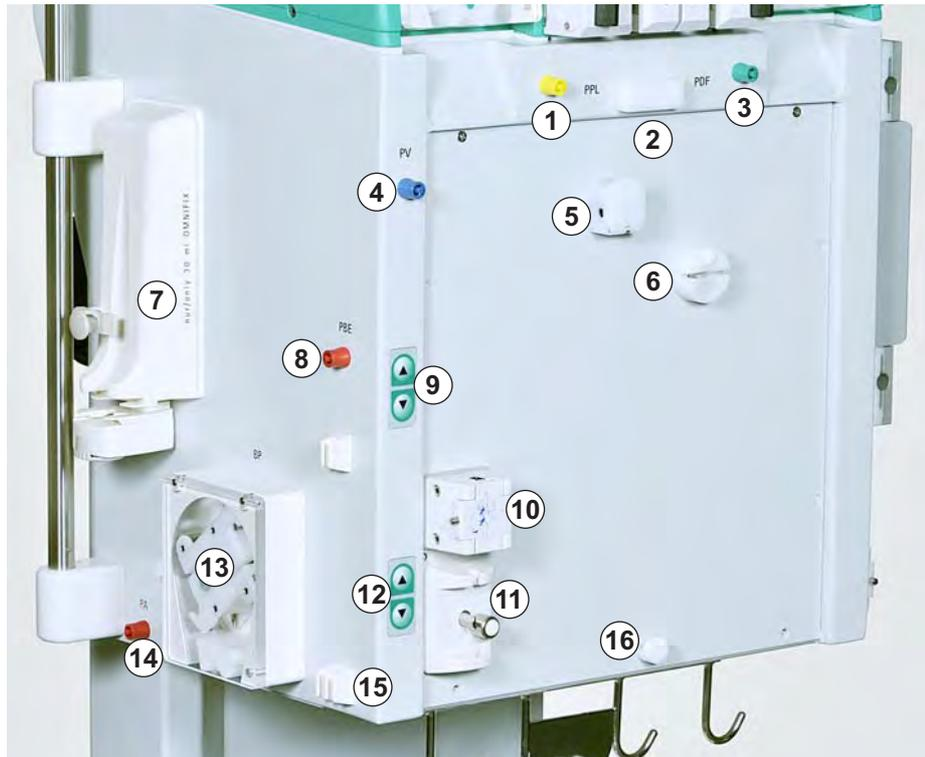

Fig. 3-5 Central module, front-left view
The level adjustment keys are located at the front of the upper module (see Fig. 3-4 Upper module (33)) and at the front of the central module (see Fig. 3-5 Central module, front-left view (34)).